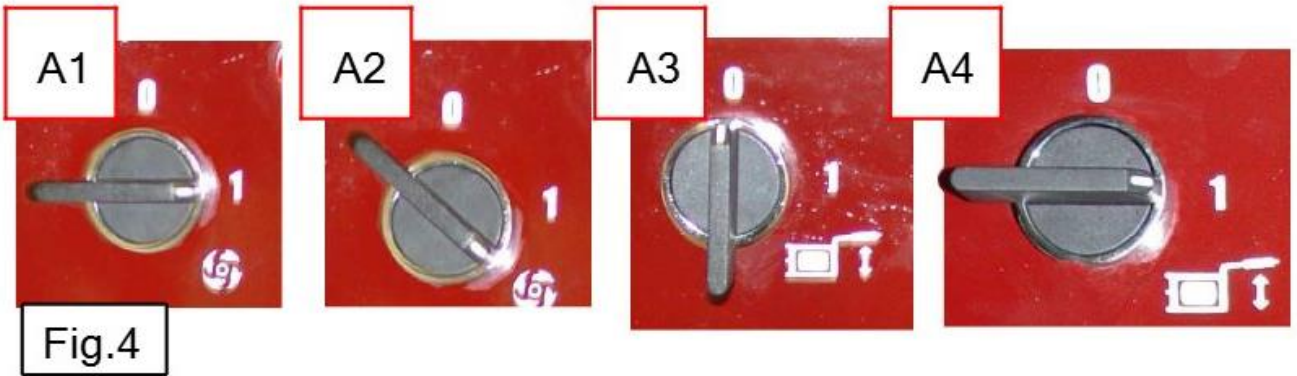

Fig.4
- 3) Turn the switch to the "ON" position (Fig. 4-A1)
- Turn the switch to the 'reset' position (Fig. 4-A2).
When it is unlit: Turn the switch to the 'reset position (Fig. 4-A2)